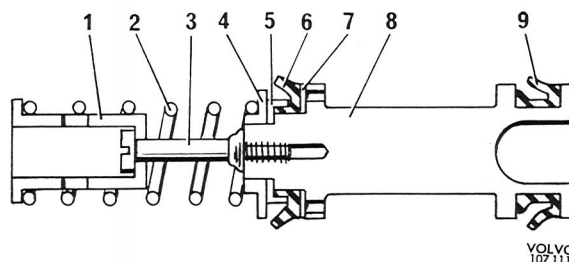
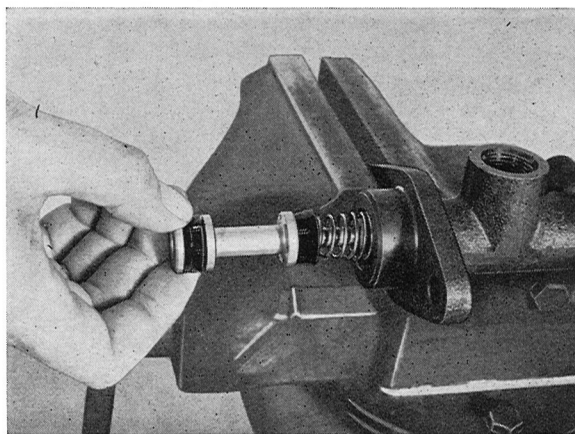

Fig. 5-48. Primary piston
Fig. 5-49. Installation of primary piston
3. Assemble the new primary piston according to Fig. 5-48 and install it as shown in Fig. 5-49. Press in the piston and install washer (10, Fig. 5-32 and circlip (11).